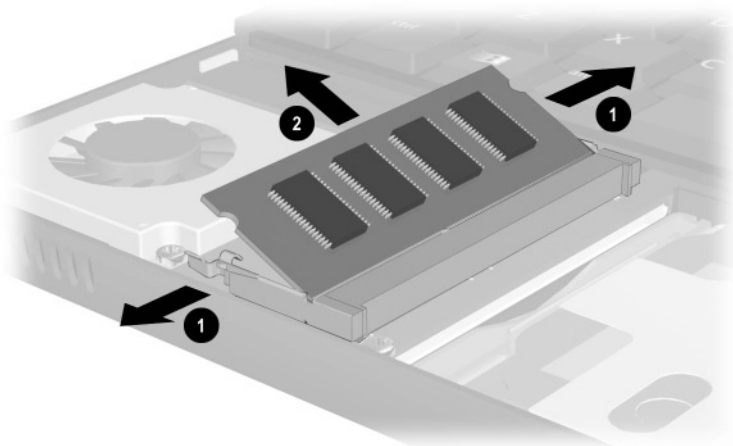

Figure 5-14. Removing a Memory Expansion Board
3. Pull away the plastic retention clips on each side of the memory expansion board ❶. The memory expansion board tilts upward (Figure 5-14).
4. Lift the edge of the memory expansion board and slide it gently out of the memory expansion slot at a 45-degree angle ❷.